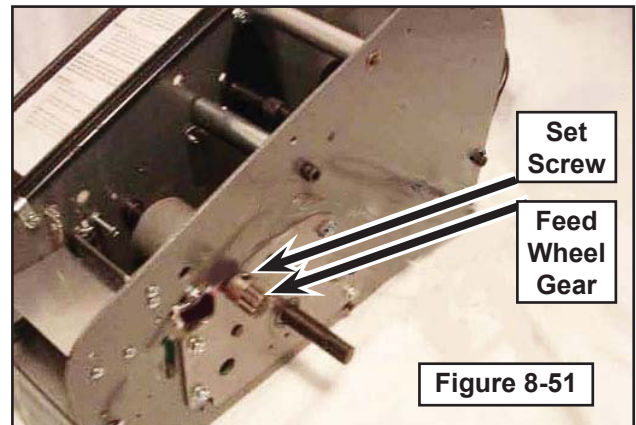

Figure 8-51
7. Remove set screw from feed wheel gear (Figure 8-51).
8. Remove feed wheel gear (Figure 8-51).